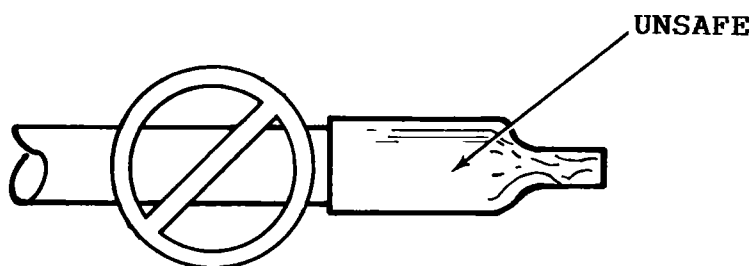

Figure 7-5. Improper Insulation of T1.
- DO NOT CAP OFF WIRE AS SHOWN IN FIGURE 7-5. THIS METHOD MAY CREATE AN UNSAFE CONDITION WITH AGE.